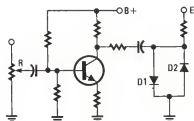

FIG. 4
4. Regarding the circuit shown in Fig. 4: